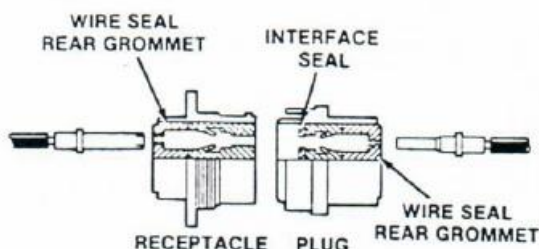

Figure 147
1. All wires and contacts are removed and installed from the rear of the connector. If you try to remove from the front or without the correct removal tool the contact and connector will be damaged. The tool will release the barbs inside the connector. Figure 147.